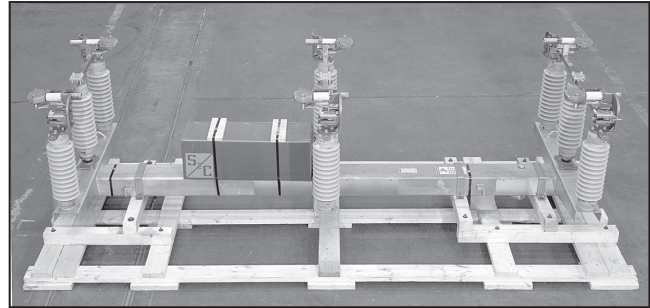

Figure 5. Uncrating the switch.
**STEP 3.** Remove the switch from its crate. See Figure 5. Protect the bearings from contamination by dirt, mud, oil, etc. If necessary, use blocks to keep the bearings clear of the ground.